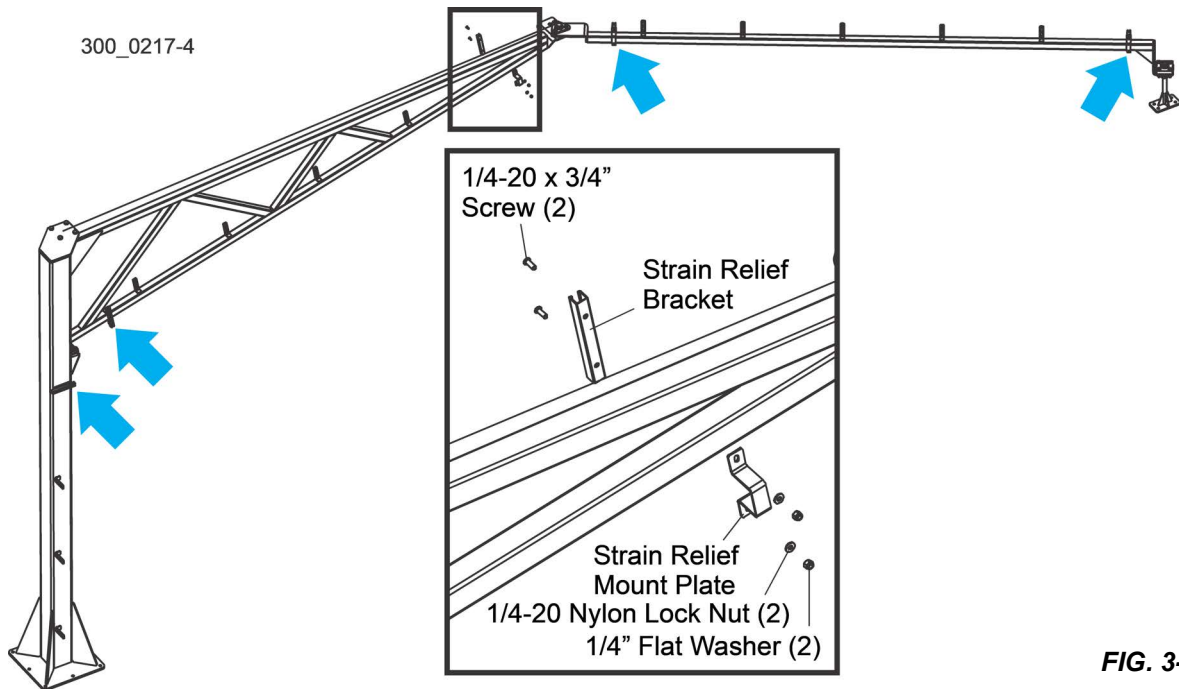

FIG. 3-11
10. Assemble the strain relief brackets. (See Figure 3-11.)